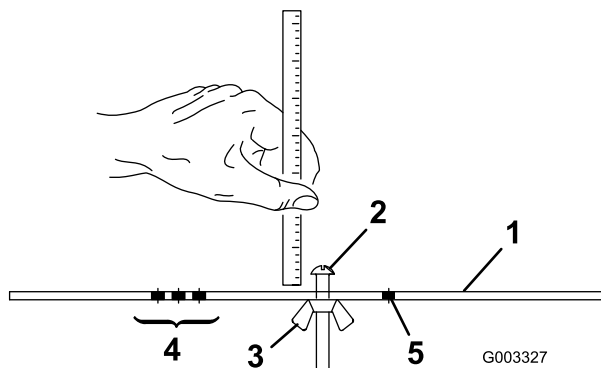

Figure 20
2. Loosen nut on gauge bar (Figure 20) and set adjusting screw to desired height-of-cut. Distance between bottom of screw head and face of bar is height-of-cut.